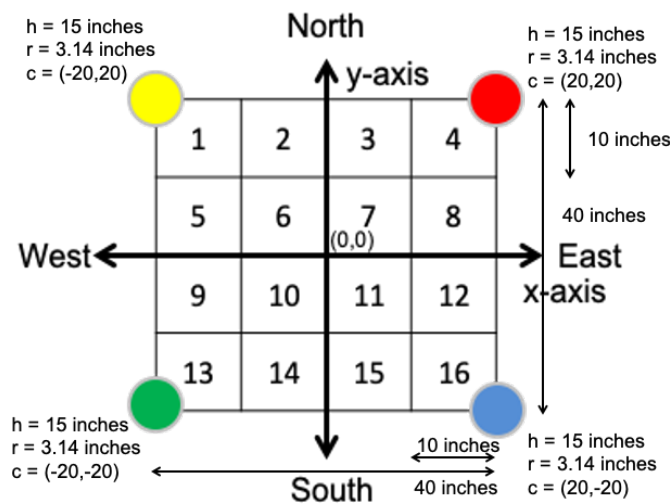

Figure 1. Global reference frame and grid cell numbering scheme.
The global reference frame and grid cell numbering scheme is shown in Figure 1. The positive y-axis points North while the negative y-axis points South. The positive x-axis points East while the negative x-axis points West. Origin (0,0) is in the middle of the arena. The arena consists of 16 grid cells, numbered 1-16, each measuring 10 x 10 inches. There are four colored cylinders
- (a) Visited cells. Use as an example the table below to display already visited cells, where an “X” indicates a visited cell, and “.” indicates a yet to be visited cell. Top left corner corresponds to cell number “1” as described to Figure 1.